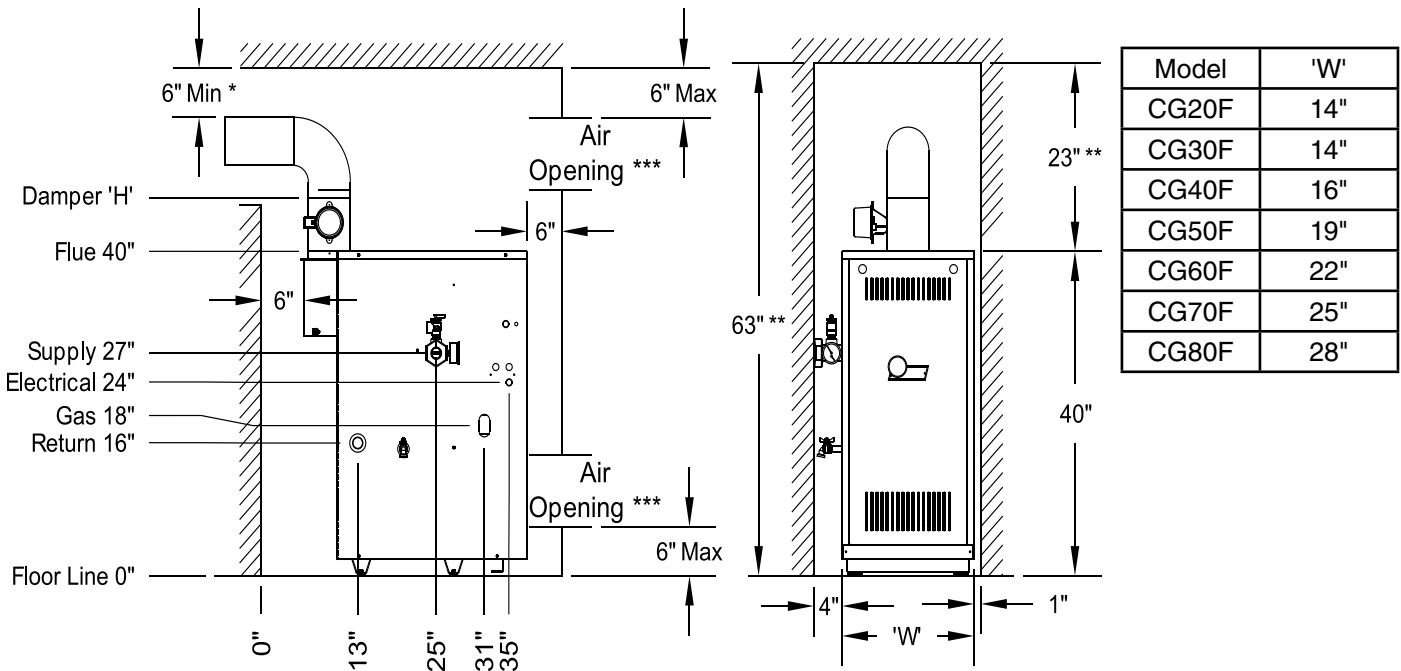

Figure 1-3: Minimum Closet Clearances
- A. Inspect shipment carefully for any signs of damage. All equipment is carefully manufactured, inspected and packed. Our responsibility ceases upon delivery of boiler to carrier in good condition. Any claim for damage or shortage in shipment must be filed immediately against carrier by consignee. No claims for variances or shortages will be allowed by Boiler Manufacturer, unless presented within sixty (60) days after receipt of equipment.
- D. Provide clearance between boiler jacket and combustible material in accordance with local fire ordinance. Refer to Figures 1-3 and 1-4 for minimum clearance from combustible material. Provide 1/2" clearance from water piping to combustible materials.
- E. Provide practical service clearances. A minimum of 24" from the left side and front jacket panels is recommended for servicing but may be reduced to minimums shown in Figures 1-3 and 1-4.